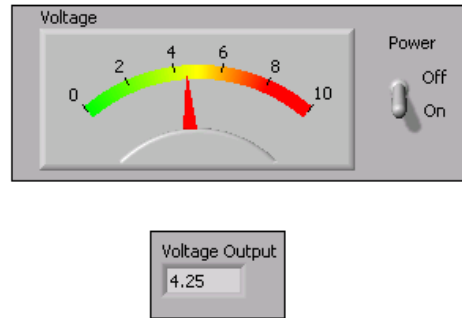

Figure 10.18
7. To acquire and display the voltage output, run the Voltage Output VI. The Voltage Output (Figure 10.18) VI outputs the voltage in 0.5 V increments from 0 to 9.5 V. When the For Loop executes its last iteration, the VI outputs 0 V to reset the analog output channel.